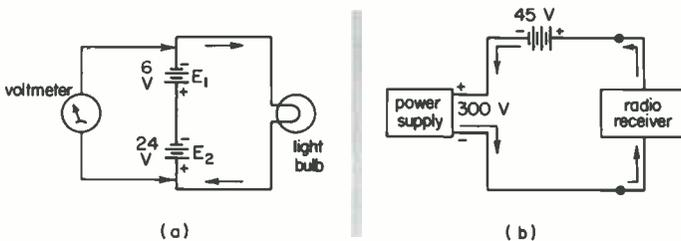

Fig. 43
1. In Fig. 43(a), the voltmeter reads _____ volts. The voltage across the light bulb is _____ volts.
2. In the circuit shown in Fig. 43(b), the total circuit voltage is _____ volts. The voltage to the radio receiver is _____ volts.
4. If the battery shown in Fig. 43(b) had its leads reversed, the voltage to the radio receiver would be _____ volts.
5. If the resistance of the light bulb in the circuit in Fig. 43(a) is $10\ \Omega$, the current drawn by the bulb is _____ amperes.